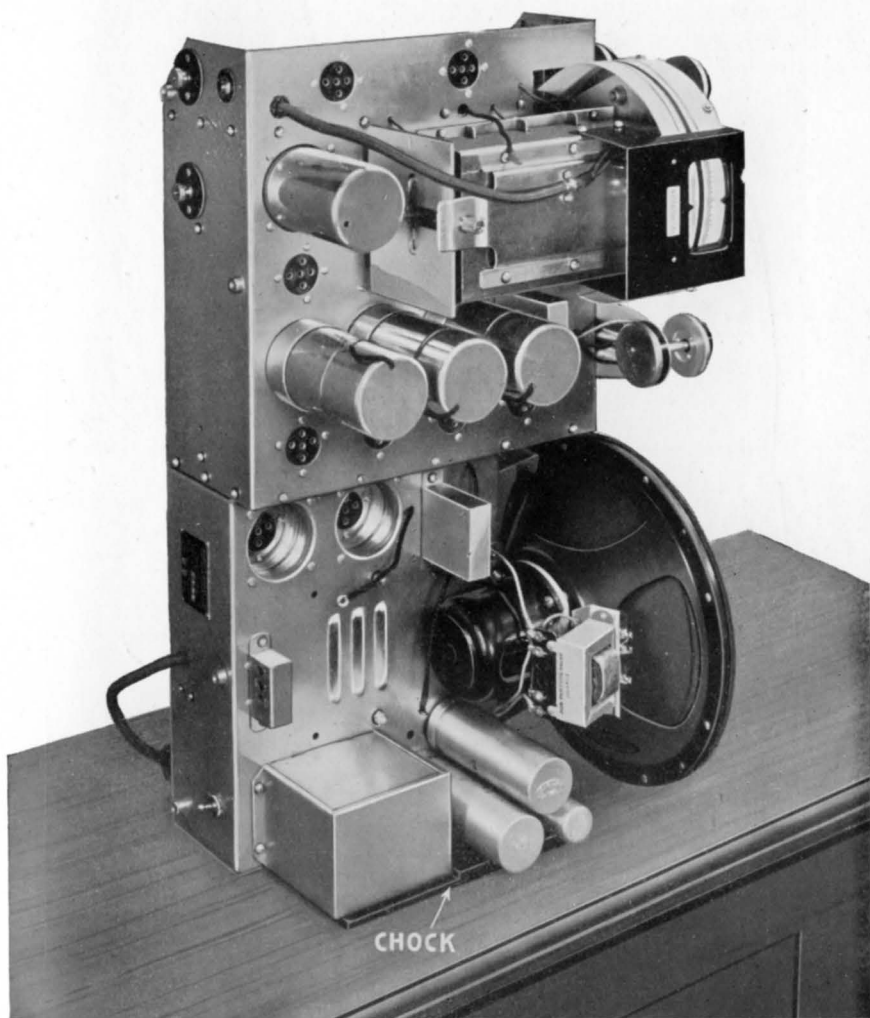

Fig. 2—VIEW OF CHASSIS ON END
For testing and working on the chassis, one needs chocks and supports to hold it "wrong way up." Three positions have been found useful and these are illustrated in figures 2, 3 and 4.
- (1) The chassis can be stood on end with the loudspeaker end downward. It stands quite well, especially if a double layer of corrugated board be placed between the bench and the electrolytic condenser. (*See Fig. 2.*) Of course one must be careful not to push it right over.